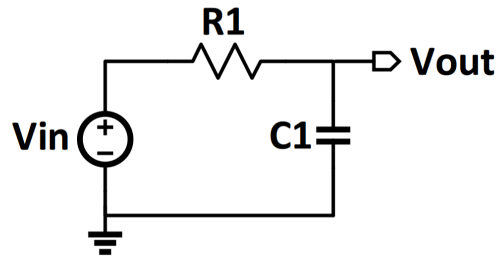
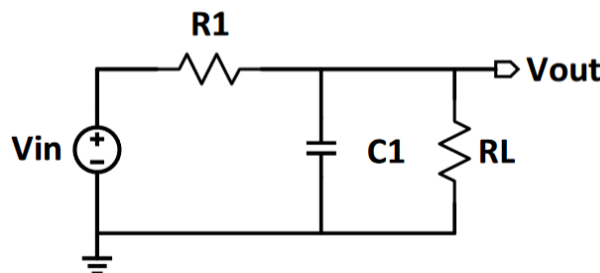

Figure 1: First Order RC Filter
Figure 2: First Order RC Filter with load resistor
The work in this section involves only “paper work” and no bench setups. It requires you to use circuit analysis techniques learned in ECE 210 to compute the frequency response $\mathbf{H}(\omega)$ for circuit shown in Figs. 1 and 2. This exercise will also help set up the framework for Section 3.
For the circuit shown in Fig. 2 above:
3. If we want the **3 – dB** cut-off frequency of the circuit in Fig. 2 be the same as that of Fig. 1, how will you change the value of the load resistor in Fig. 2